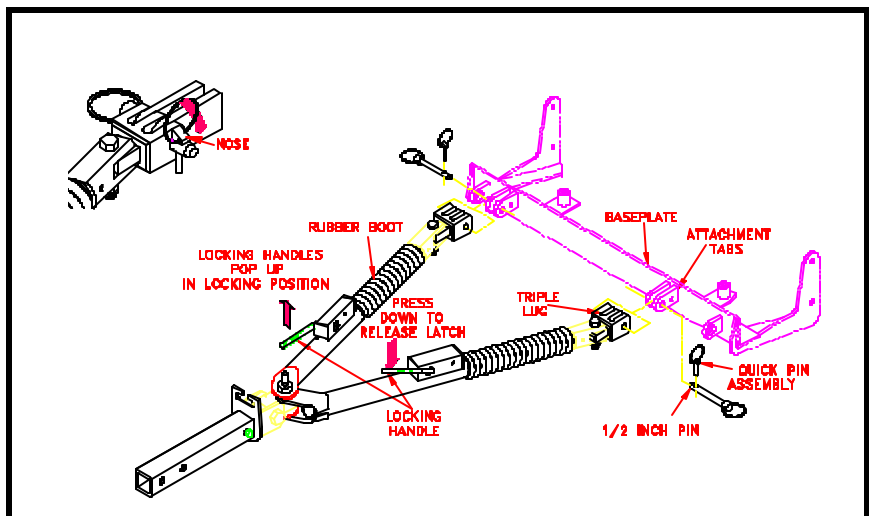

Figure 5
3. Partially extend one leg. The legs are held in with an internal "soft" latch. Pulling out on the leg will disengage this latch. Place the triple lug between the attachment tabs on the baseplate, and secure with the 1/2 pin. See Figure 5. Be sure to place the quick pin assembly **correctly** through the hole in the end to lock it in place, to nose side. Rotate ring towards nose to lock. See Figure 5. Repeat for both legs.
2. Disengage the leg latches by pushing down on the locking handles. (Figure 5) Remove the quick pins and 1/2 pins attaching the triple lugs to the attachment tabs. You may need to tap the 1/2 pins out if there is still pressure on them. Compress both legs completely until they lock in place.